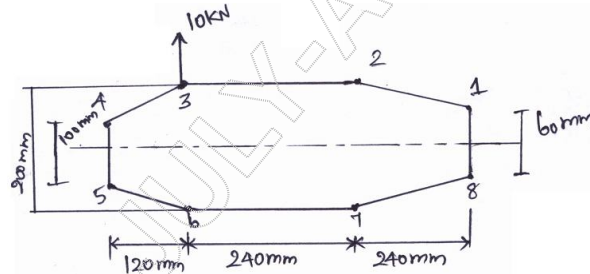

Fig. Q8
- 8 The thin walled single cell boom shown in Fig. Q8 has been idealized into a combination of direct stress carrying booms and shear stress only carrying walls. If the section supports a vertical shear load of 10 kN acting in a vertical plane through boom 3 and 6, calculate the distribution of shear flow around the section. (20 Marks)